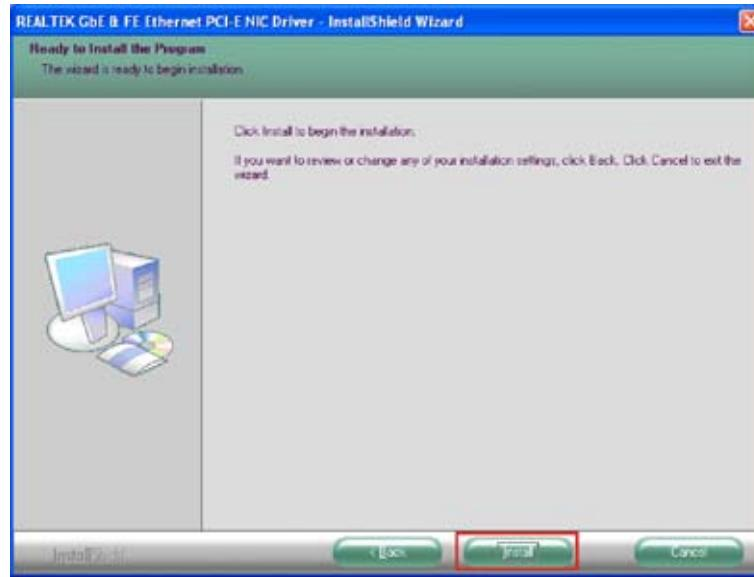

Figure 7-17: LAN Driver Welcome Screen
Step 40: The Ready to Install screen in **Figure 7-17** appears.